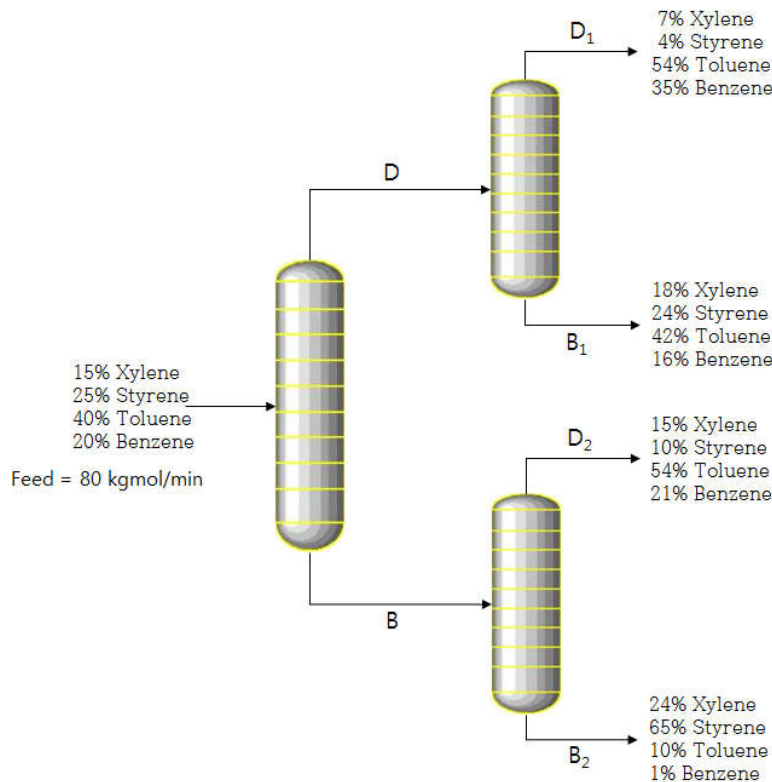

FIGURE P2.3
2.3 Paraxylene, styrene, toluene and benzene are to be separated with the array of distillation columns shown in Figure P2.3.¹⁹ Determine the molar flow rates (*kgmol/min*) of D_1 , D_2 , B_1 , and B_2 .